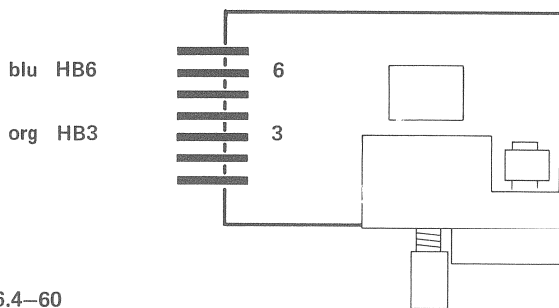

Fig. 6.4–60
- Oscillator frequency is measured with digital counter or oscilloscope. The frequency is 120 kHz (± 5 kHz) and is measured at orange HB3 and blue HB6 (fig. 6.4 –60) against ground. (Oscilloscope: 12 oscillations per 100 μsec).